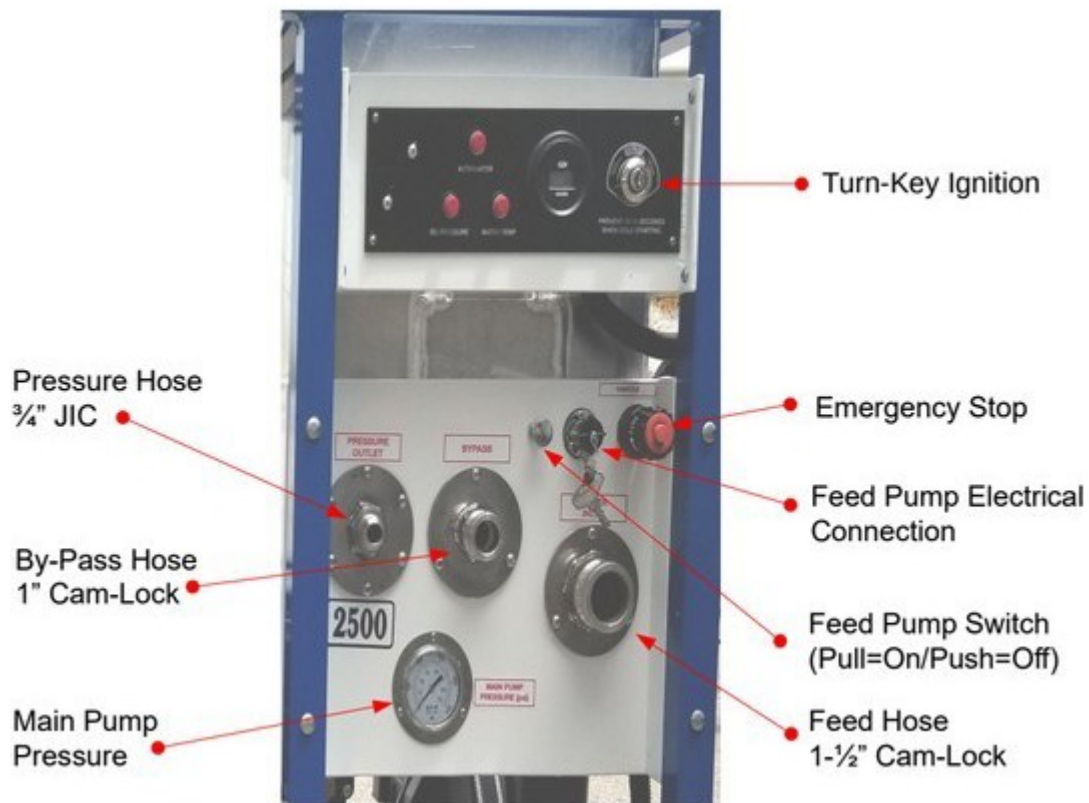

Figure 5.1 – Engine Throttle Control
4. Verify that the throttle cable is fully depressed (See **Figure 5.1**).
4. Throttle the engine up by completely pulling the throttle cable all the way out and twisting to lock it (See **Figure 5.1**).
1. Engage the pressure pump by pulling the engine throttle lever (**Figure 5.1**) to the operating speed position (fully extended) to engage the centrifugal clutch. Tighten the thumb screw to hold throttle in operating speed position.
4. If the diver operating the CaviBlaster unit must be replaced or the cleaning operation must be terminated, disengage the pressure pump by pushing the throttle lever in to the idle position (**Figure 5.1**) and release the water pressure remaining in the hose(s) by moving the Z/T-Gun / CaviDome trigger to the open or “ON” position while under water. If using the CaviBlaster Lance there is no trigger to operate, it will release by itself all pressure after turning the unit “OFF”. Revert to step 1 of the operating instructions when the diver or replacement is ready to continue cleaning.